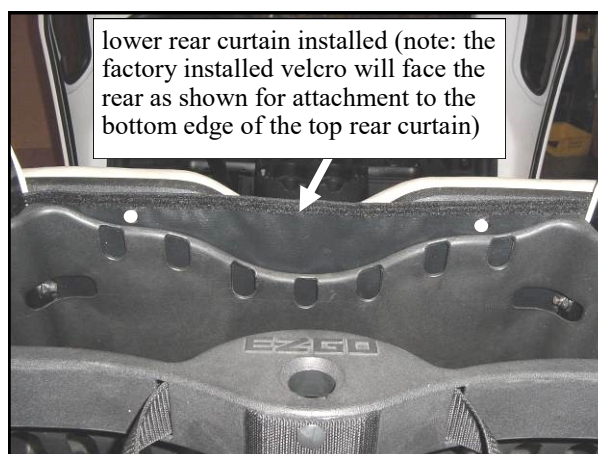
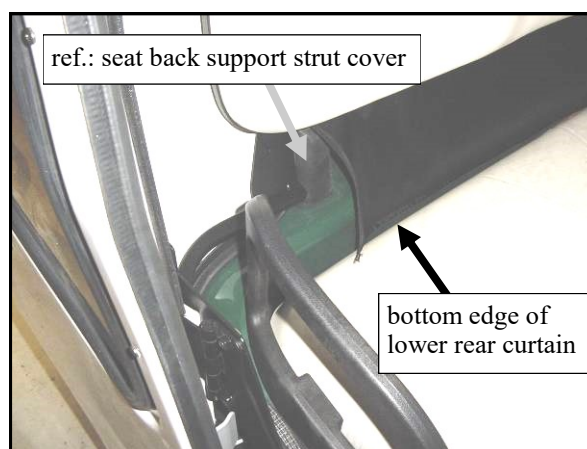

Fig. 9.2 (view taken from rear of vehicle)
Fig. 9.2.1 (view from front of passenger's side)
9.2 Per fig. 9.2, snap the lower rear curtain in place as shown and work all the loose edges down and towards the sides of the vehicle. Note: the bright, white circles represent the snaps for clarity in the photo. The bottom edge and the two sides remain loose (no velcro or snaps) and should be pulled down taught in front of the seat back support strut cover (i.e.: the rubber boot) (see figure 9.2.1).